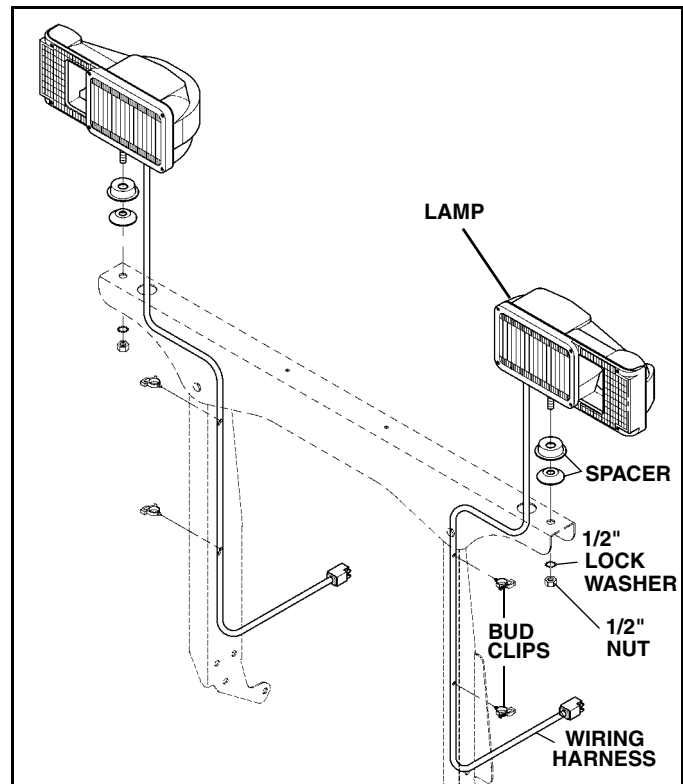
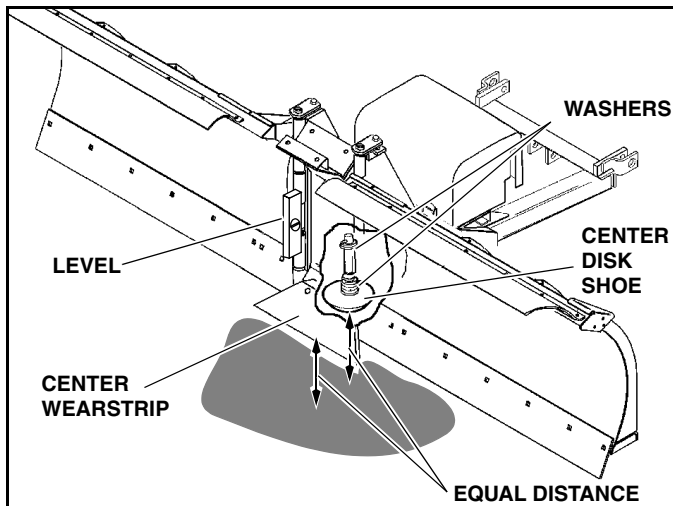

Figure 1-11
Figure 1-18
19. Secure light bar to supports with (4) 3/8" x 1" screws and lock nuts. Align light bar supports to vertical position and tighten all light bar hardware. Tighten eight lower screws to 45 lb-ft. (See fig. 1-18). Mount lamps on light bar using supplied 1/2" lock washers and nuts. (See Figure 1-11).
20. Route the harnesses through the light bar, through the access hole and down the inside of the light bar supports. (See Figure 1-11).
5. Determine whether the center disk shoe or the center wearstrip is off the ground and measure the amount that it is off the ground. (See Figure 1-18).